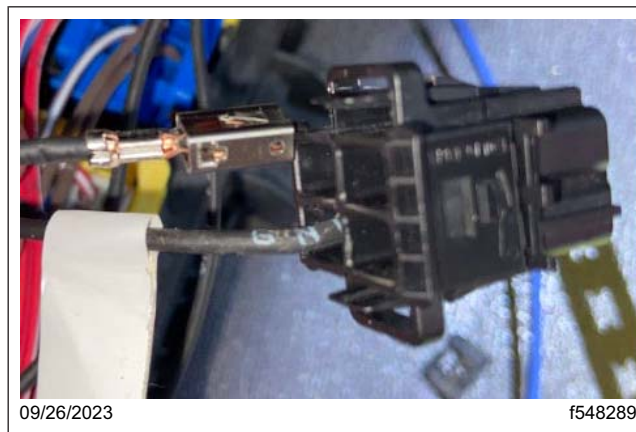

Fig. 21, Inserting the Longer Black Wire into Cavity 1 of the X10 Connector
- 9.5 Insert the longer black wire that was routed to the X10 connector in step 8 into cavity 1 of the X10 connector. See **Fig. 21**.